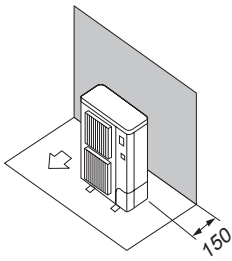

Fig. 4-6
- ① Obstacles at rear only (Fig. 4-6)